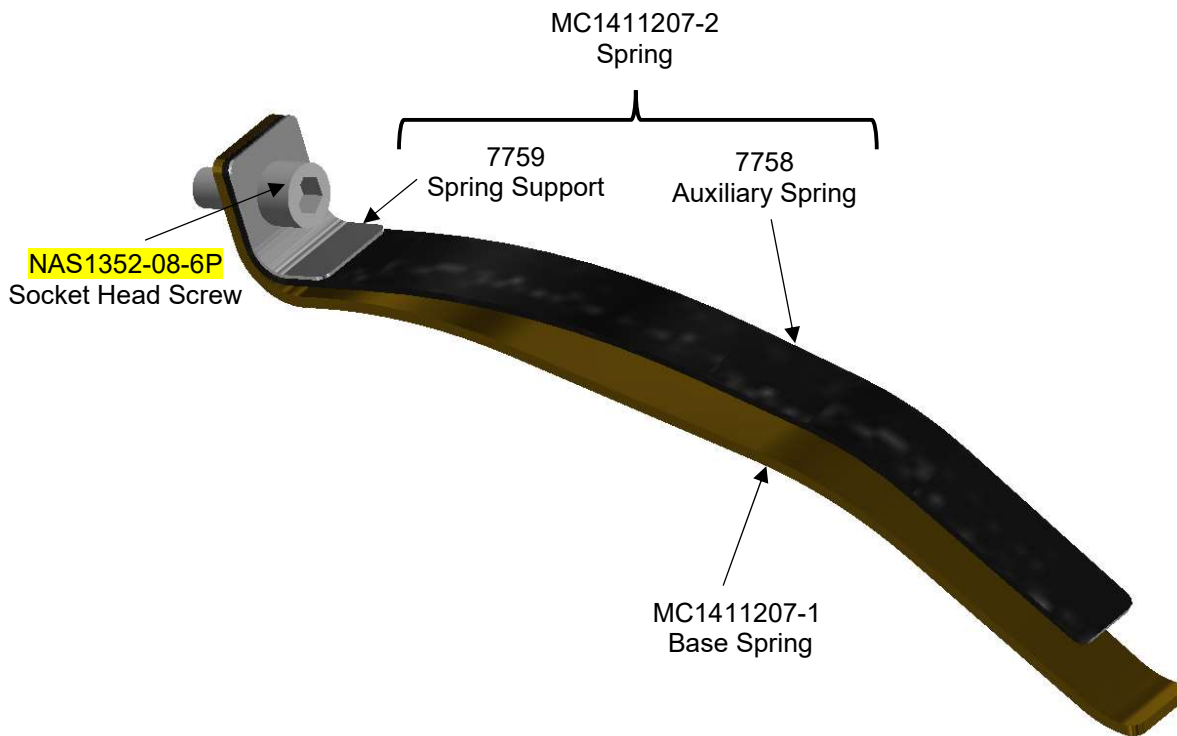
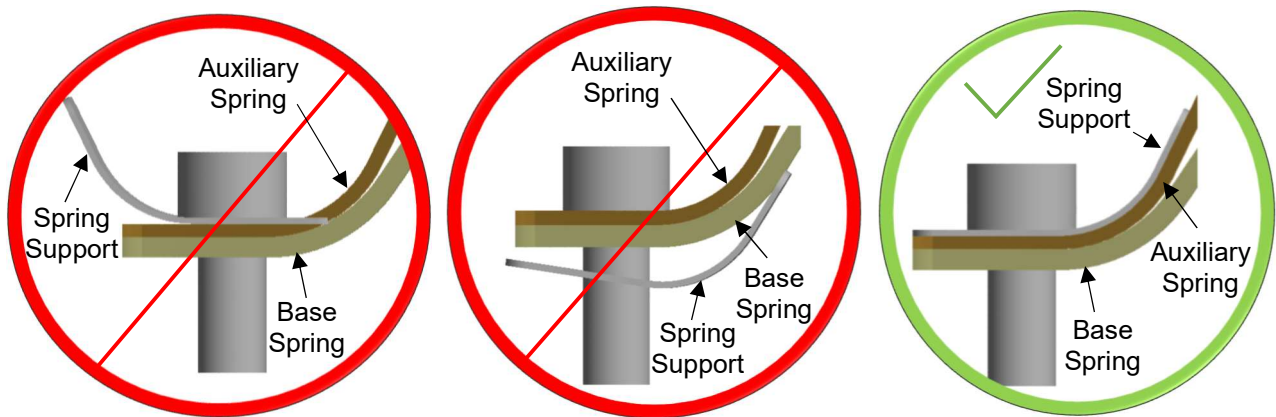

Figure 2: MC1411207 Series Spring Stack-up
Figure 3 Proper Installation of Spring Supports
This document is intended to provide for the continued airworthiness of the McFarlane Aviation, LLC. PMA replacement Door Springs eligible for installation on various Cessna aircraft. The part numbers are MC1217062-1, MC1217062-2, MC1411207-1, and MC1411207-2 (refer to Figure 1 and Figure 2 below for spring stack-up). MC1217062-2 is comprised of P/N's 7756 & 7757, and MC1411207-2 is comprised of P/N's 7758 & 7759. P/N's 7757 & 7759 are spring supports designed by McFarlane to provide added strength to the door spring assembly. This is in response to some customer reports about door springs failing early in their life. Table 1 has been provided below for a breakdown of the contents of each assembly. For all items not related to the installation of the McFarlane Aviation, LLC. Door Springs, refer to the basic airplane model service and parts manuals.
The door spring assemblies' function is to hold the cabin doors of applicable aircraft in one or two open positions, depending on which door bracket part number is installed. The original door spring assembly consisted of two door springs, 1217062-1 and 1217062-2, or 1411207-1 and 1411207-2, depending on which applicable aircraft they were being installed on. For a better, longer lasting product, McFarlane has broken up the -2 springs into two part numbers: 7756 & 7757 for 1217062-2, and 7758 & 7759 for 1411207-2. These pairs belong to part number MC1217062-2 and MC1411207-2. The reason for P/N's 7757 and 7759 is to bolster the door spring assembly in response to reports of the door springs failing at the base of the door springs. The original door spring assembly was fastened together with an AN525-832R7 screw, and McFarlane has proposed using an **NAS1352-08-6P** screw, which provides a better contact area than the AN525-832R7 which means the **NAS1352-08-6P** screw can carry more force. For the McFarlane door spring assemblies, the spring support is stacked onto its related auxiliary spring, which is then stacked onto its related base spring (see Figure 1 and Figure 2). As an example, door spring 7756 is stacked on top of the MC1217062-1 door spring and 7757 is stacked on top of 7756 as shown in Figure 1 above. To improve the strength of the spring series, McFarlane designed spring support 7757, as part of P/N MC1217062-2. Spring support P/N 7759 is a part of P/N MC1411207-2.
3. Stack springs up as shown in Figure 1 and Figure 3 for the 1217062 series of springs and Figure 2 and Figure 3 for the 1411207 series of springs.